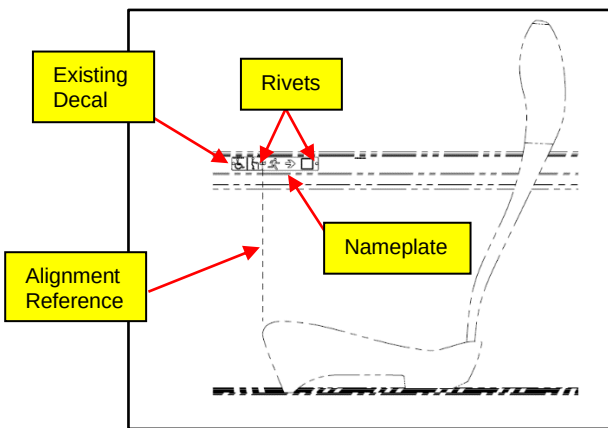

Figure 3: Nameplate and Existing Decal
5. As shown on Figure 3, butt up nameplate together with existing decal (NF PN: 03-15-7278 ref).